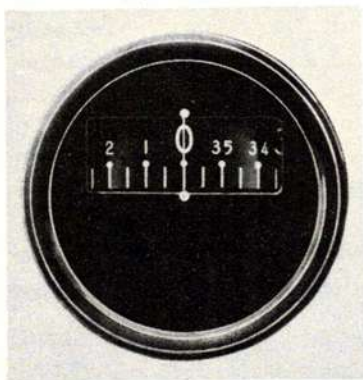

Figure 5-1-9.
**The directional gyro.** This instrument (fig 5-1-9), when properly aligned with the magnetic compass, indicates the directional heading of your aircraft. Because it is more stable than the magnetic compass, it is used in maintaining a fixed course or heading. It functions within 55 degrees of pitch and 55 degrees of bank.